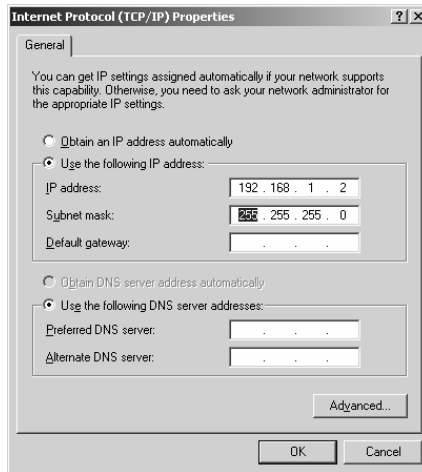

Figure 10: Internet Protocol (TCP/IP) Properties Window
6. Select Use the following IP address, and fill in the details as shown in Figure 10.